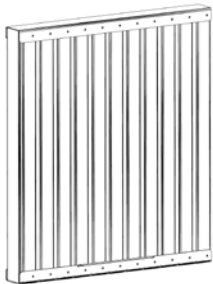

Figure 2-3-1
6. Replace the filters or Extractors. **Important Note:** Filters and Extractors must be installed with the openings running vertical as shown in Figure 2-3-1. Gaylord XGS Extractors have an arrow stamped on the face designating "UP".